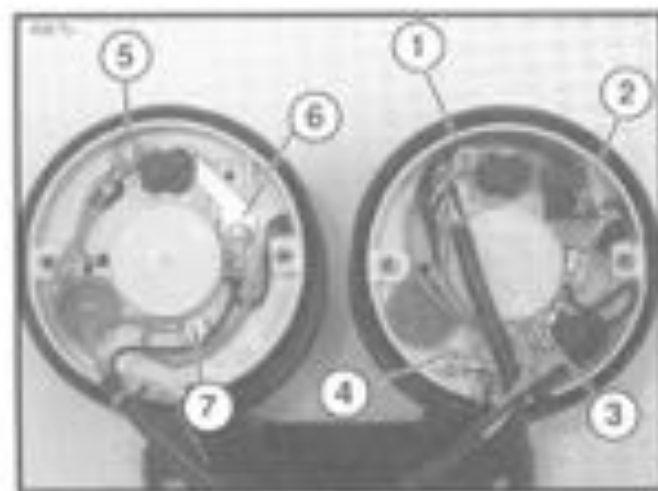

Figure 7-92. Speedometer and Tachometer
1. Remove seat and fuel tank. Detach speedometer sensor plug from frame T-stud. Unplug connector (8). Cut cable straps holding sensor harness. Free harness from battery area and allow to hang free from front of motorcycle.
5. See Figure 7-92. Remove nuts from terminal studs 1, 2, and 4. Remove wires from studs. On vehicles where speedometer wires may have been wired directly into the speedometer, cut the wire approximately 1" from the speedometer. Strip 3/16" off of end of wire and crimp the ring terminal from the new speedometer kit onto the wire using the Packard crimper 115 (HD 38125-B) using the 20-18 crimping die for the zinc crimp.
3. See Figure 7-92. Install wires back on terminals 1, 2, and 4.
- See Figure 7-92. Remove 9/32" nuts from terminal studs 5, 6, and 7. Remove wires from studs.
- See Figure 7-92. Install wires back on terminals 5, 6, and 7.